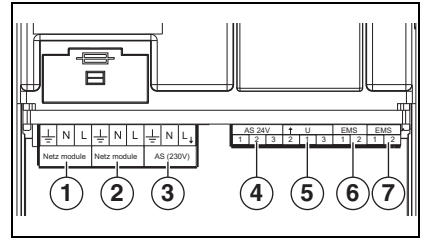
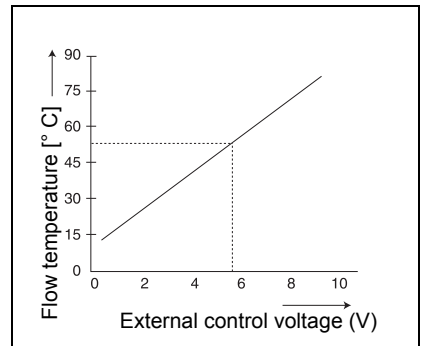

Fig. 2 Connections
Fig. 3 0-10 V diagram
- a) The AS 24 V connection (→ fig. 2, [4]), this is a potential-free switching contact for low voltage signals of up to 24 V. This malfunction signal can for example, be evaluated by a building management system.
- b) The AS 230 V connection (→ fig. 2, [3]), this can for example operate a horn or warning light. In case of a malfunction, there will be 230 VAC on this connection.
The EM10 can be used as an interface between the control unit and a building management system, for example. With the 0-10 V DC signal (→ fig. 2, [5]), the flow temperature or the power of the boiler can be controlled (→ fig. 3).
This control is activated if pins 1 and 3 are bridged (→ fig. 2, [5] and the wiring diagram on page 46). The EM10 defaults a percentage output via the 0-10 V signal from the control unit, → tab. 2.